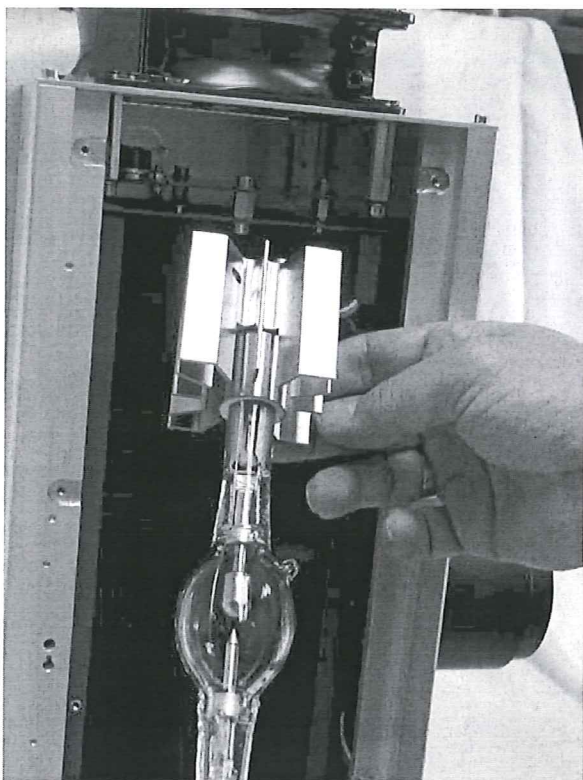

Fig. 3
- Insert the lamp with its top terminal into the heat sink (or top adapter) with the sensor installed and tighten the M4 screw on the heat sink (Fig. 3/4).